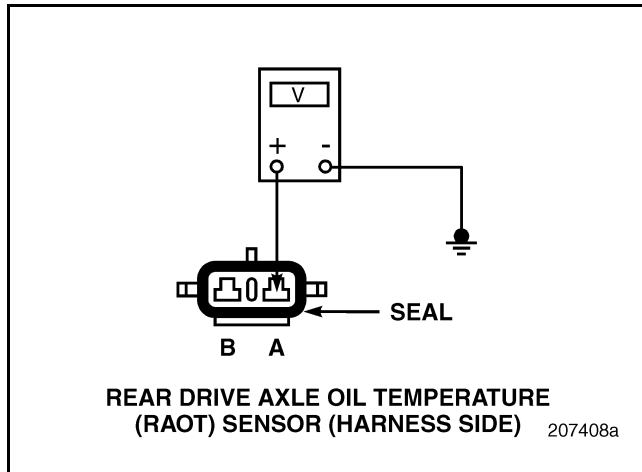

Figure 253
2. Measure the voltage between RAOT Sensor harness connector pin A and a good ground (see Figure 253).